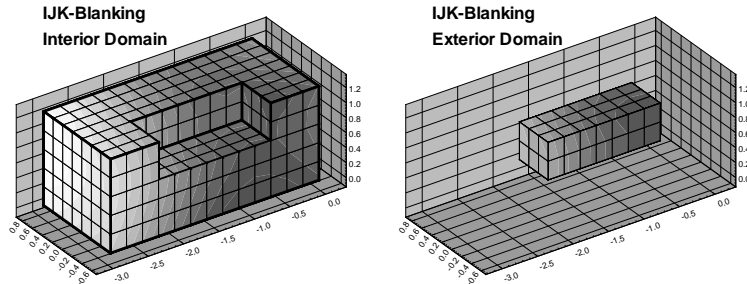

Figure 19-5. IJK-blanking with Interior domain (left) and Exterior domain (right).
- **Interior** - Cells within the specified index ranges are blanked. Those outside are plotted. This creates a “hole” in the zone. The left side of Figure 19-5 shows an ordered zone with IJK-blanking with Interior domain.
- **Exterior** - Cells outside the specified index ranges are blanked. Those inside are plotted. Exterior plots a sub-zone of the zone. The right side of Figure 19-5 shows an ordered zone with IJK-blanking with Exterior domain.